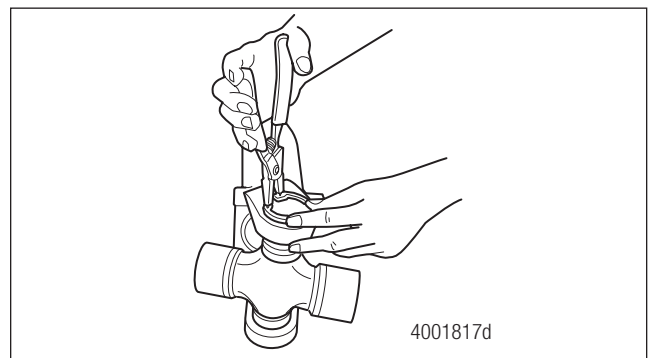

Figure 5.22
- Use snap ring pliers to install the second snap ring into the snap ring groove. Figure 5.22.